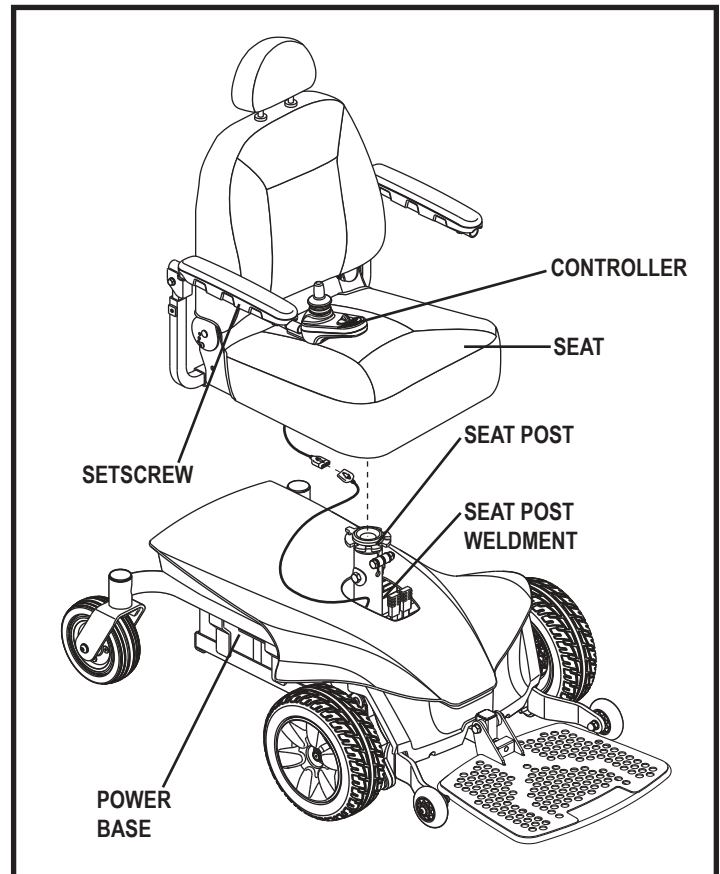

Figure 7. Seat and Controller Assembly
1. Adjust the seat post to the desired position and insert the bolt through the seat post and secure with the nut. **See figure 7.**
3. Slide the seat down onto the seat post. **See figure 7.**
4. Install the controller into one of the armrests. Tighten the setscrew with the supplied hex key. **See figure 7.**
5. Lift the armrest straight up, then route the controller harness and secure with wire ties as shown in **figures 7, 8, and 9.**
8. Reinstall the seat. **See figure 7.**